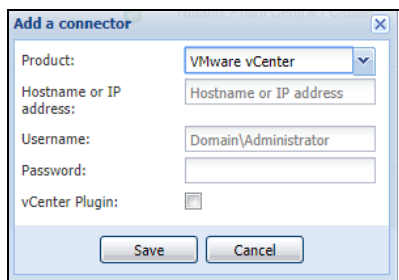

Figure 96. Add VMware vCenter
2. Add identification information for the selected connector (see Figure 96).